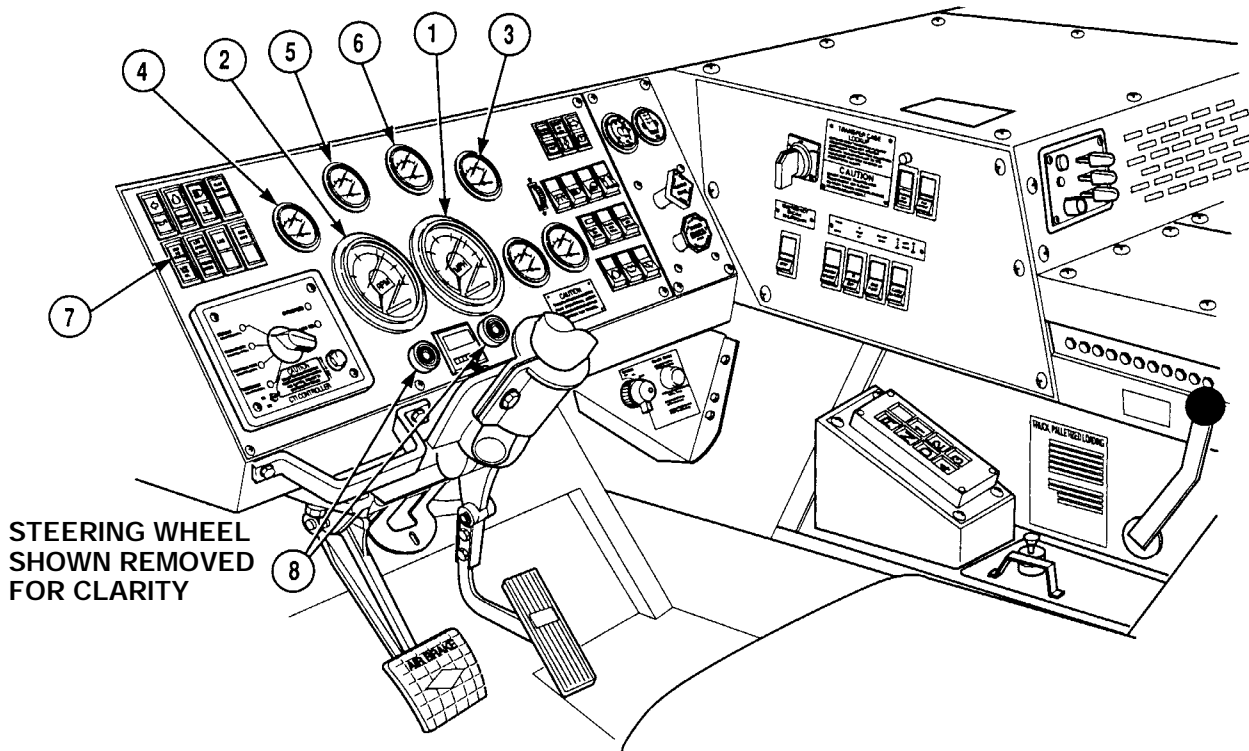

Figure 1-15. Instrument System
f. Instruments. The instrument system (Figure 1-15) includes all gages that give the operator information. The speedometer (1) receives signals from a sending unit mounted on the transfer case. Tachometer (2) input is provided from the DDEC controller. The fuel gage (3), oil pressure gage (4), water temperature gage (5) and transmission oil temperature gage (6) all receive electrical signals from sending units. These sending units monitor fluid level, pressure and temperature and send this information to the gages.
g. Warning Lights and Buzzers. The warning lights (7) and buzzers (8) in the cab are activated by sensors located in different systems. These include low air pressure, low engine oil pressure, low hydraulic oil level and high water temperature. When one or more of these sensors are activated, they energize the proper light and/or buzzer, informing the operator of a problem.